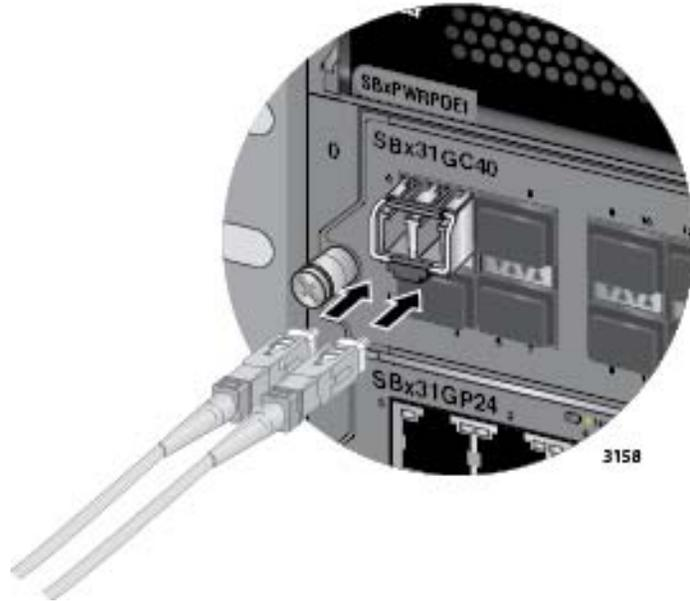

Figure 91. Attaching a Fiber Optic Cable
6. Connect the fiber optic cables to the port on the transceiver, as shown in Figure 91 on page 154. The connectors should snap into the ports. If you are connecting only one cable to a CSFP transceiver, you may connect it to either port.